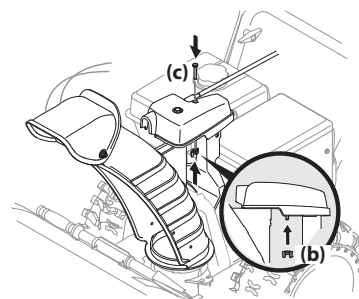

Figure 2-45
4. Finish securing chute control head by installing hex screw (c) and wing nut (b) removed in Step 1. See Figure 2-45.